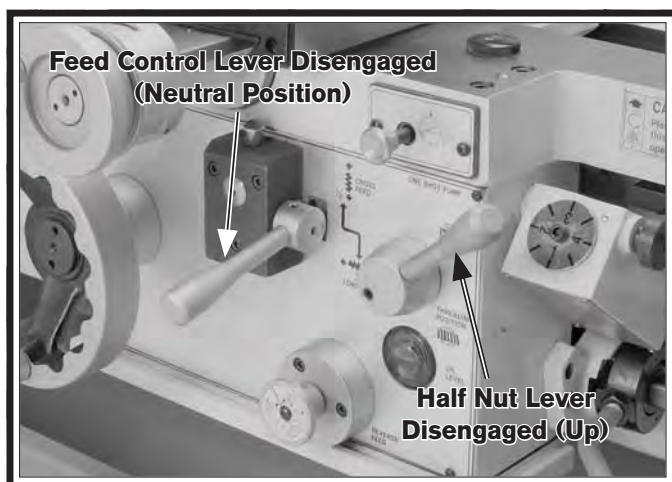

Figure 30. Power fed and half nut levers disengaged.
- Disengage the half nut and the feed control levers shown in **Figures 30–31**.